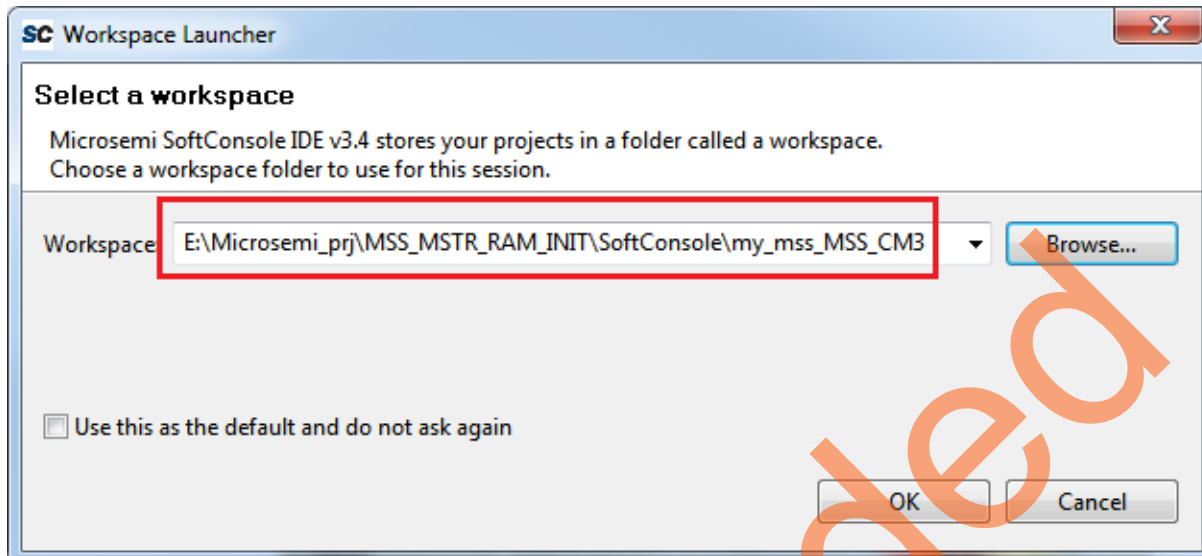

Figure 10 • Specifying the SoftConsole Workspace Location
5. Launch the **SoftConsole v3.4SP1** and browse to the my_mss_MSS_CM3 project under the SoftConsole folder project where the Libero project is created as shown in Figure 10 on page 14.